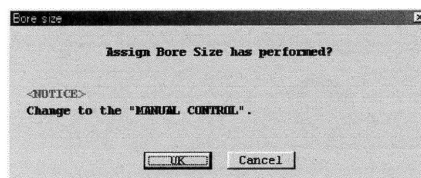

Fig.59
- ④ After filling in all the fields required, click on "OK" button. A message box as shown in Fig. 59 then appears. Clicking on "OK" at this point changes the previous settings to the new settings just entered. However, the flowmeter output also changes with the changes in settings made. For safety's sake, therefore, in applications where the flowmeter output controls a valve or other devices, it is necessary that the control loop be switched to manual control to ensure that the control loop is unaffected from the flowmeter output.